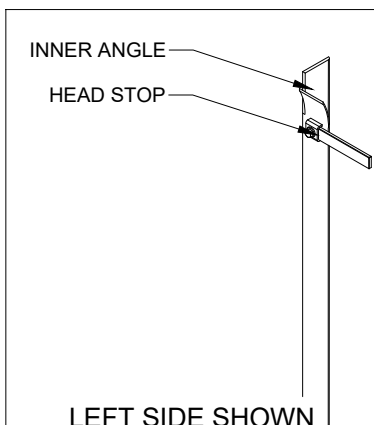

FIGURE 13
- a. Install the head stops to the inner angles. See Figure 13.